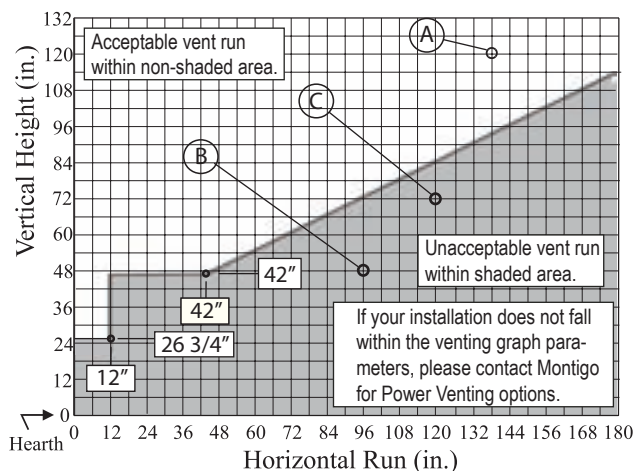

Figure 17. Rear Vent Venting Graph for **wall mounted** terminations.
- Venting runs *must* fall within the limits set by the venting graphs, see **Figure 17**.
Measure the vertical height from the fireplace hearth to the centre of the termination and the horizontal run from the fireplace flue collar to the wall flange of the termination. Plot on the Venting Graph **Figure 17** with an 'X'.
Figure 17b. Rear Vented, wall mounted Multi-elbow termination installation. Installation for L38DF-ST must have a minimum vertical rise of **42"**. The vent run must comply with the Venting Graph for **Rear vent, wall mounted** terminations, Figure 17.